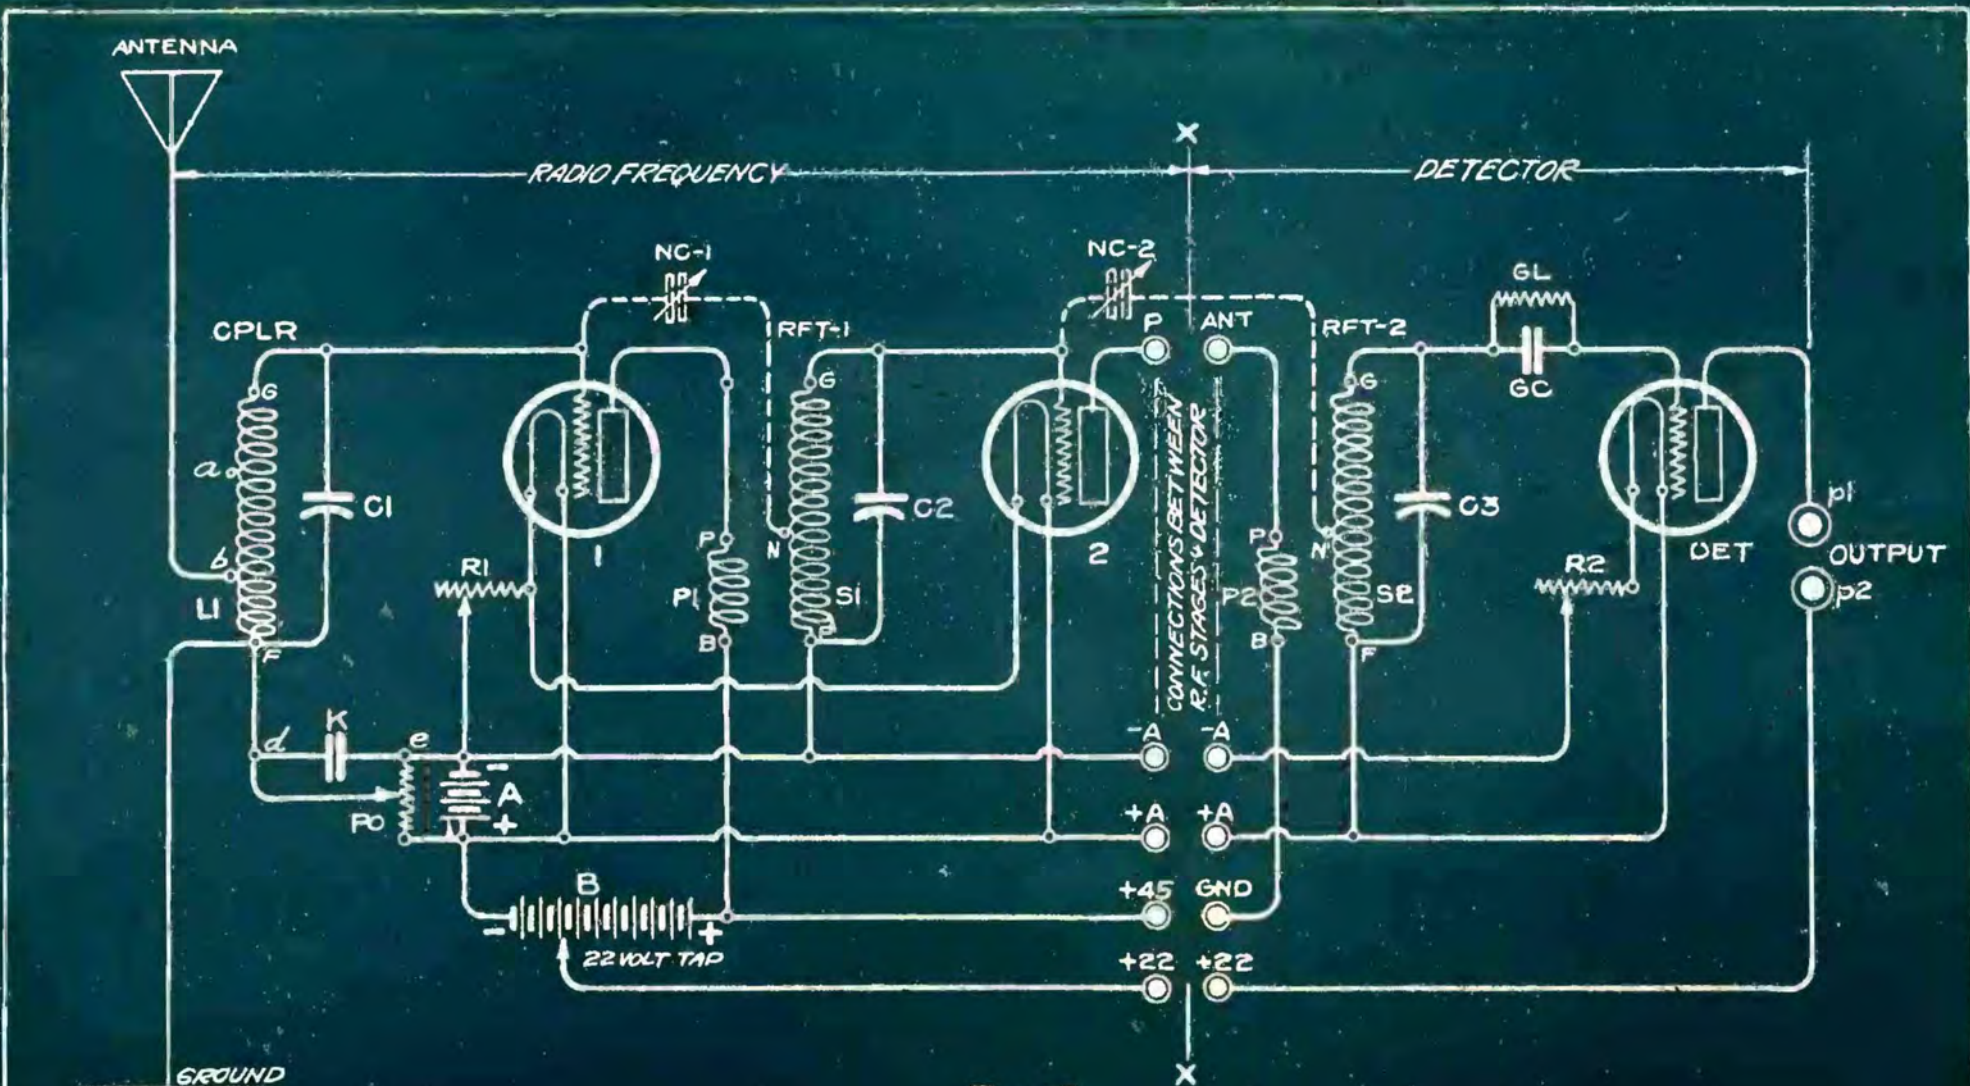
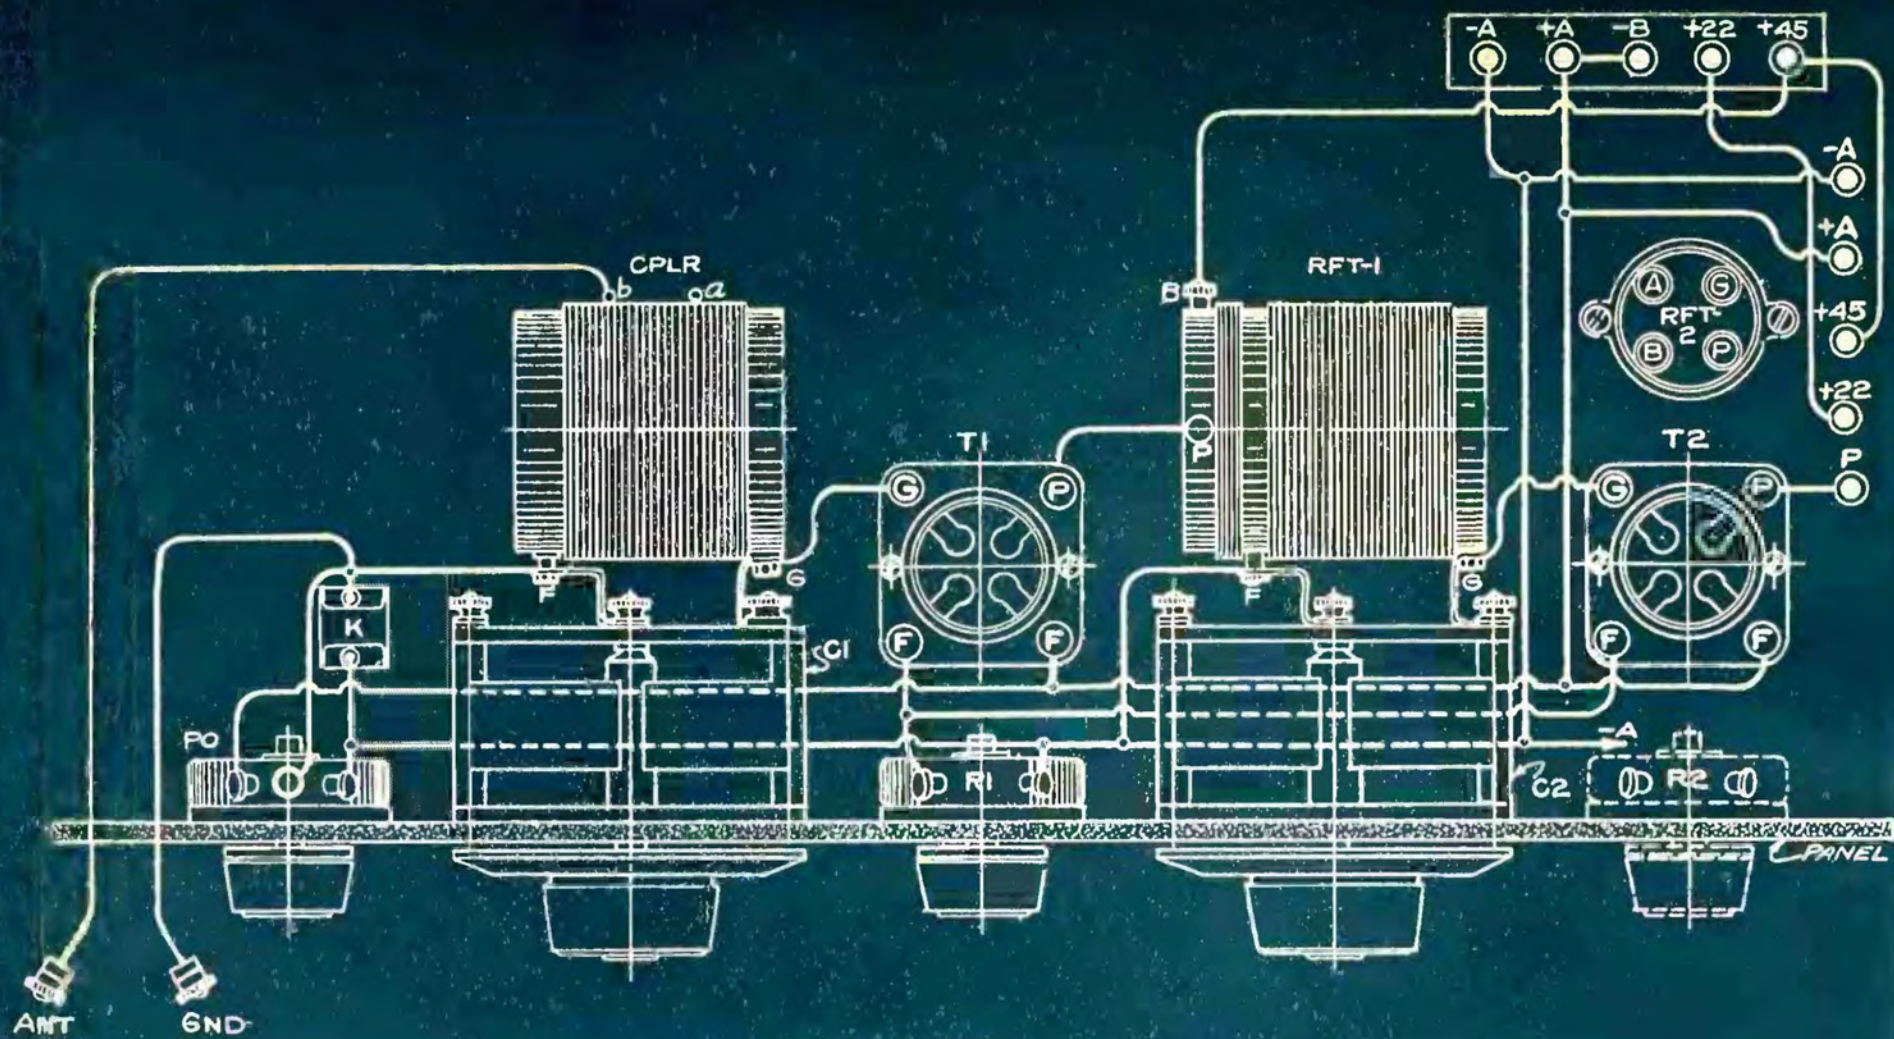

FIG. 7.
FIG. 8
Fig. 7 shows two stages of radio frequency added to a non-regenerative detector circuit, the coupling point of the radio and detector circuits being at the line (X-X) and indicated by the small circles representing binding posts between the additional stages and the old set. At (1) and (2) are the two radio frequency tubes controlled by one rheostat (R1). The detector tube is shown at (DET) with the usual grid condenser (GC) of 0.00025 mf. capacity and the 2 megohm grid leak (GL). This tube is controlled by the rheostat (R2), acting independently of the R. F. tube rheostat and also independently of the rheostat used for the audio frequency tubes when an audio stage is used. (Not shown in Fig. 7.)
Great stability can be added to this circuit when all transformers are of the air-core tuned type by the use of grid neutralizing condensers shown in dotted lines at (NC), and the circuit is also much quieter when the tubes are neutralized in this manner. As will be seen from Fig. 7, the neutralizing condensers are connected between the grids of the radio frequency tubes and suitable taps (N) in the transformer secondaries. When the grids are neutralized, the potentiometer (PO) is no longer necessary and after it is removed, the grid return line is closed by connecting the (-A) at (e) to the ground line at (d). Owing to the high resistance of untuned radio frequency transformers and the damping influence of the resistance on self-oscillations, it is not necessary to use neutralizing condensers when these transformers are in the circuit.
IN FIG. 8 is a picture diagram of a complete two stage radio frequency amplifier adapted for use with a detector unit. This is the same circuit as that in Fig. 7 with the exception that the detector tube is omitted, and for the convenience of the reader, both drawings are lettered and numbered the same so that the relation of the parts can be easily followed. It is arranged in a separate cabinet ready for connection to an existing circuit by means of output and battery posts marked at the left of the set. These posts correspond to the posts in Fig. 7 shown along the line (X-X).
There are many ready-made commercial coils more suitable for use than the solenoid types shown at (CPLR) and (RFT1) but these low-loss coils cannot be easily made at home. Examples of these coils will be found in the advertisements of the makers. However, for the benefit of those that prefer to "roll their own," the dimensions of the coils are shown in Fig. 8. They are wound with No. 26 D. C. C. or No. 24 D. C. C., with eight turns on the primary and 55 turns on the secondary of transformer (RFT1). The coupler (CPLR) is a continuous coil tapped at the 16th turn (b) and also at the 30th turn (a). These tapping points will generally give a sufficient range of selectivity under ordinary conditions, but there is no reason why more taps cannot be provided—say at every tenth turn or so. When once the proper tap point is found for the connection of the